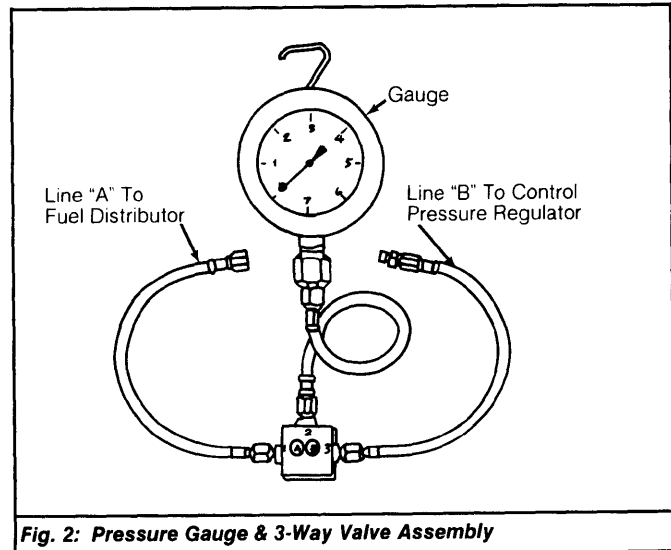

Fig. 2: Pressure Gauge & 3-Way Valve Assembly
1) Before any pressure tests can be completed, it is necessary to install Pressure Gauge (100 589 13 21 00) and 3-way valve assembly in fuel line between fuel distributor and control pressure regulator. See Fig. 2.